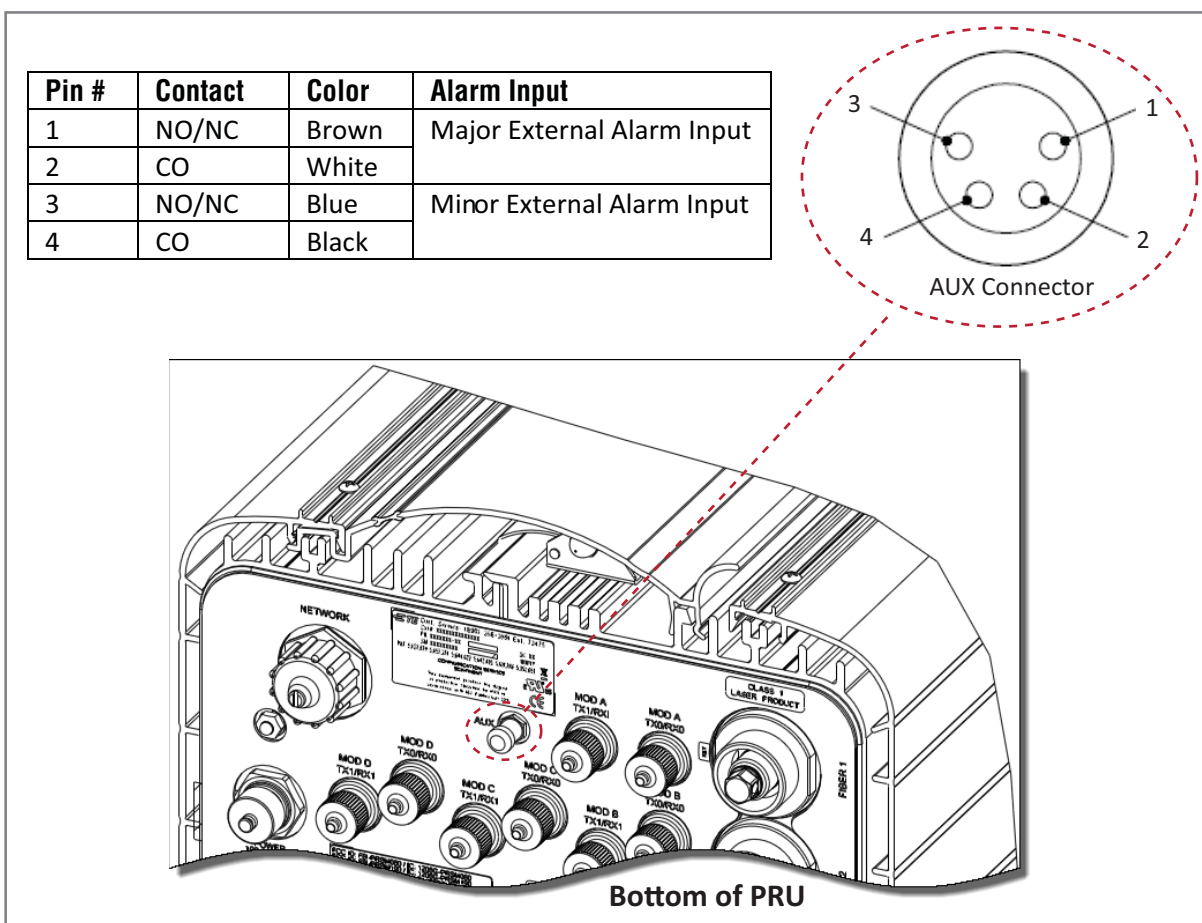
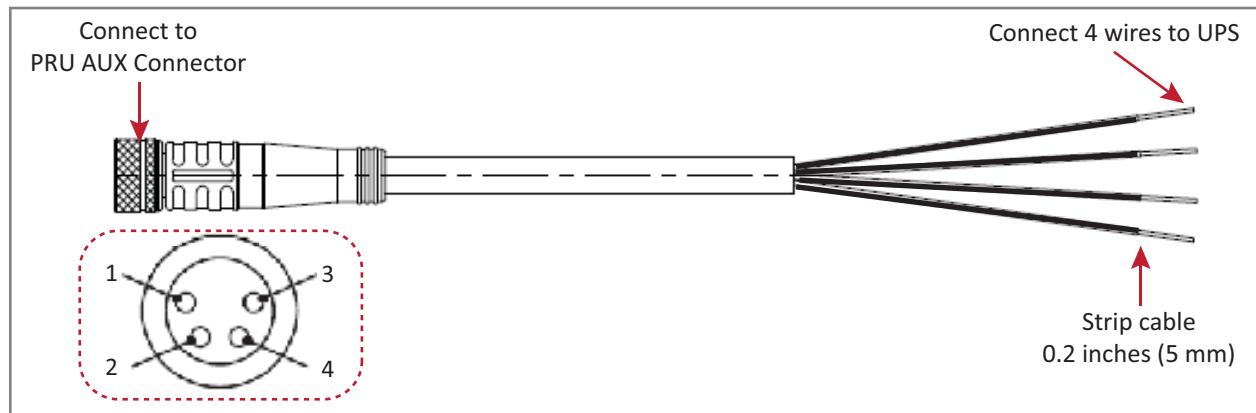

Figure 17. AUX Connector Pin Orientation
Figure 18. 4-Wire picofast 26 AWG Cable
The four-pin AUX Connector on the bottom of the PRU allows the PRU to be connected to an external device with dry contact connections, such as an Uninterrupted Power Supply (UPS). The AUX Connector pins are shown in Figure 17.
A 4-Wire M8 picofast® 6- or 10-meter 26 AWG cable is used to connect the PRU to the external device, as shown in Figure 18.
- 2 Orient the coupling fastener on the cable (Figure 18) with the AUX Connector pins (Figure 17), and then fasten the cable to the AUX Connector.